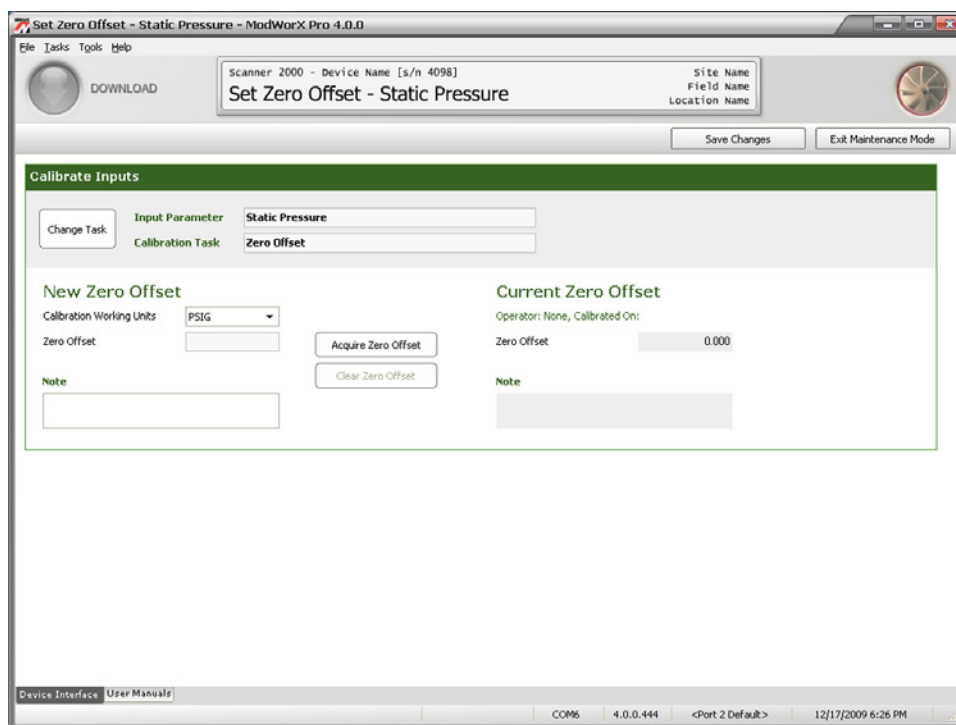

Figure 8.11
- The Set Zero Offset – Static Pressure screen will appear, and the input parameter and calibration task selections you made will appear at the top of the screen (Figure 8.11, page 119).